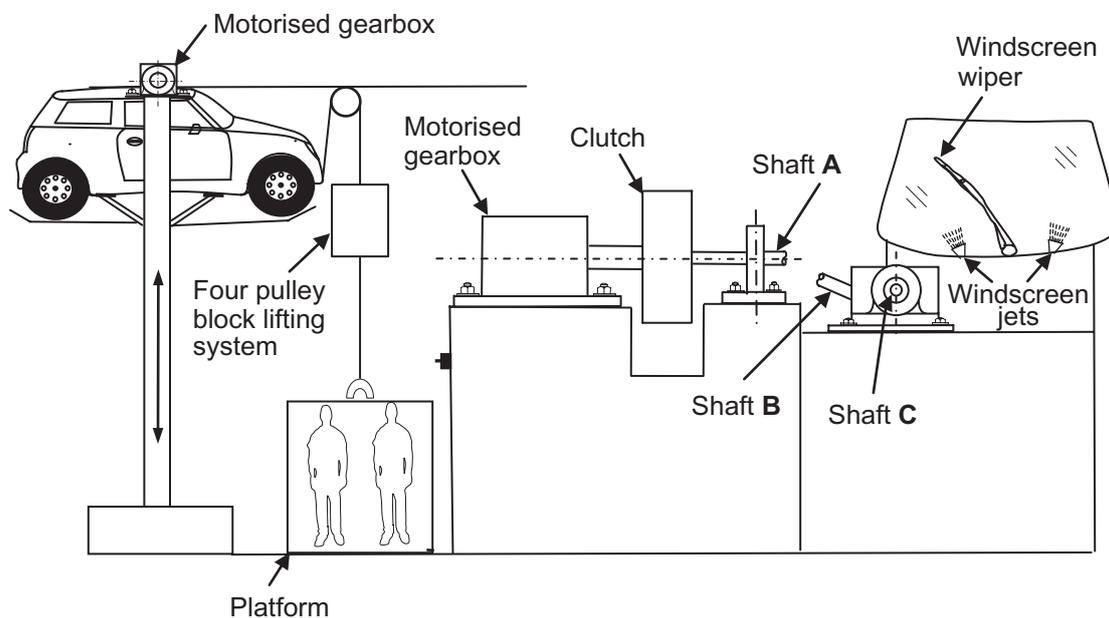

Fig. 3(a)
- 3 (a) **Fig. 3(a)** shows a prototype rig to be used when filming for part of a car advert to show the effortless exchange of movement and motion within the car.